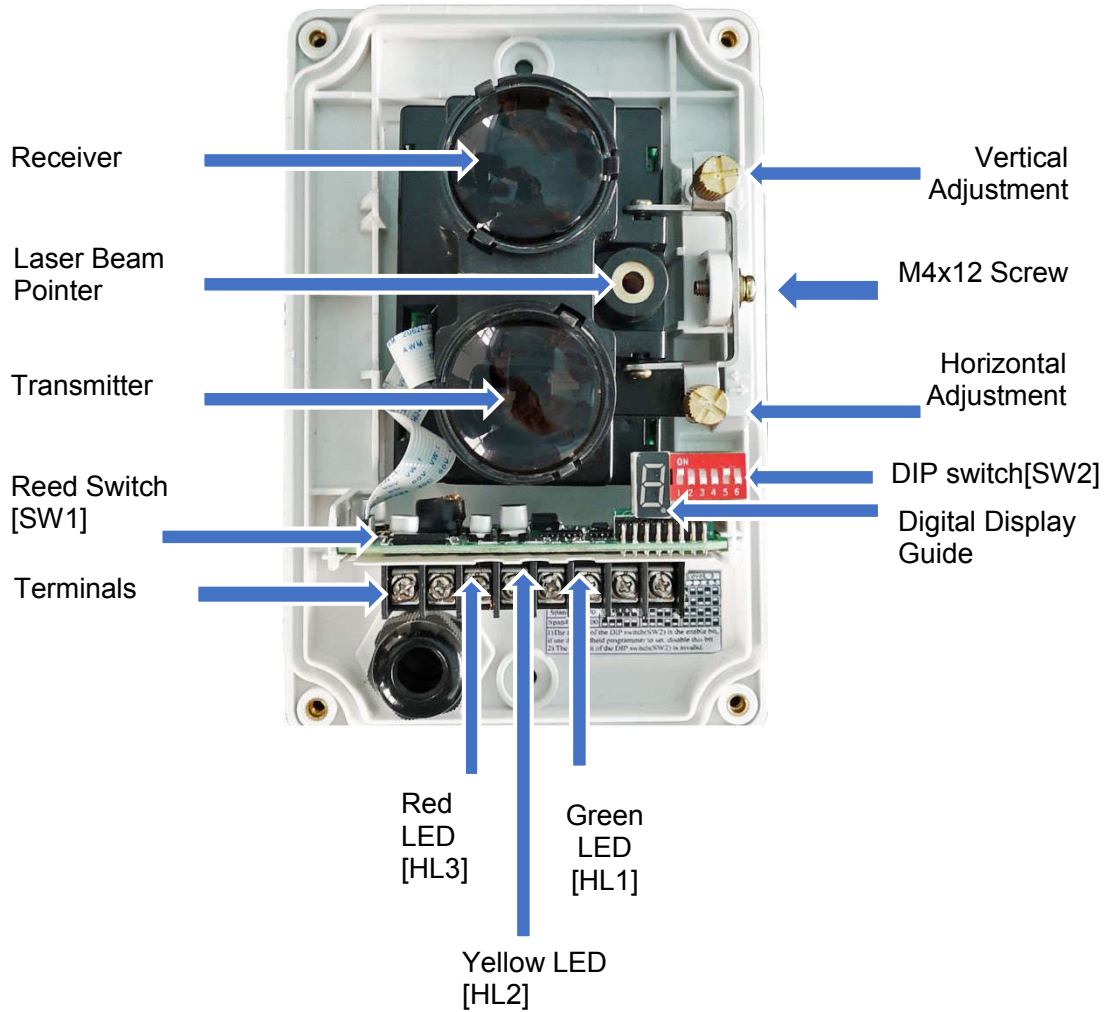

Figure 13: Names and Location
- a. Using supplied Opaque/Translucent materials, cover-on the half of the beam using the opaque portion of the material. Right after the Yellow LED [Fault] turn on, indicating the fault signal. [The fault alarm relay [GZ1 and GZ2] will latch to normally close]. Refer to Figure 13.